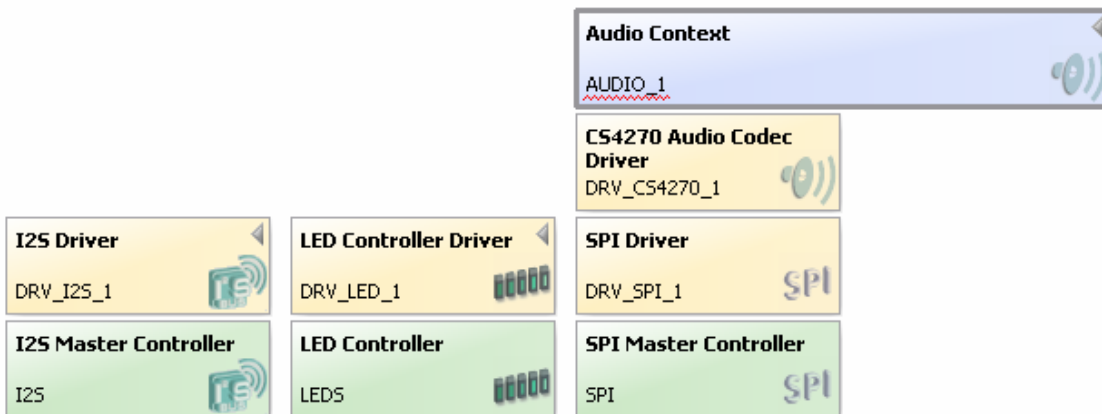

Figure 19. Then add the Audio Context, to configure the Audio Codec.
- With this driver selected in the SwPlatform, click the **Grow Stack Up** button again to open the *Grow Stack* dialog and add the Audio Service, as shown in Figure 19.